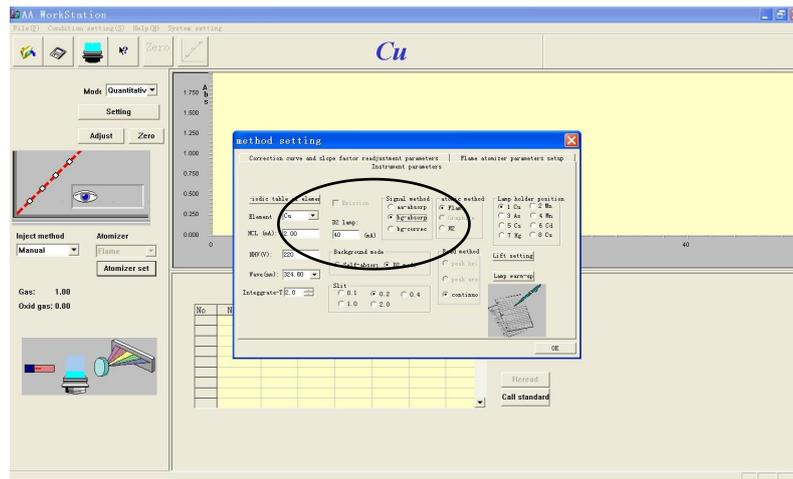

Figure 4-23
- 2) If "Self-absorption" is selected for the background mode, the "Deuterium lamp current" automatically changes into the "Self-absorption current" field. Just enter the desired current value into the field, as shown in Figure 4-23. The range of current is **0-14mA**.